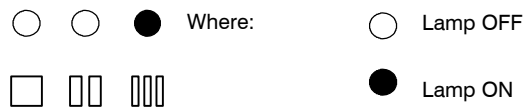

Fig. 9.16
- Press the reset button C once until the lamps E give the indication as in Fig. 9.16 (boiler mode).